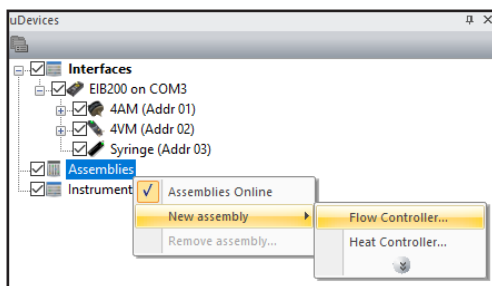

Fig. 5
- 4) In the **uDevices panel**, right-click **Assemblies**. Then hover over **New assembly** and select **Flow Controller** (Fig. 5).